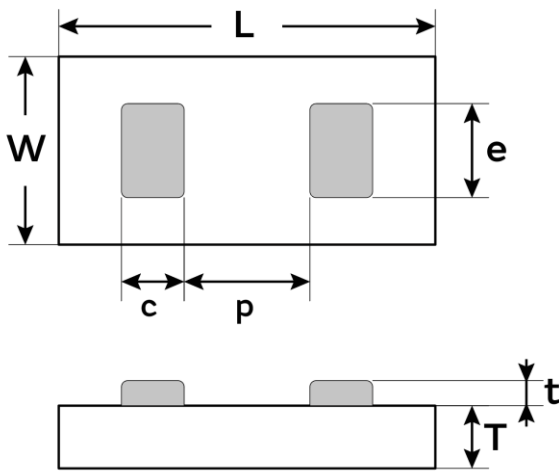

Figure 8 - Package outline
(1) On request
(2) SAC = ENIG + SAC305 type 6 or NiAu = ENIG (0.1µm Au / 5µm Ni)
(3) missing capacitors can reach 0.5%
(4) refer to Figure 8